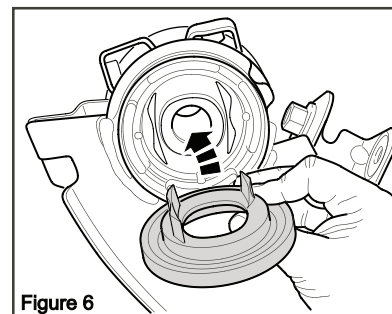
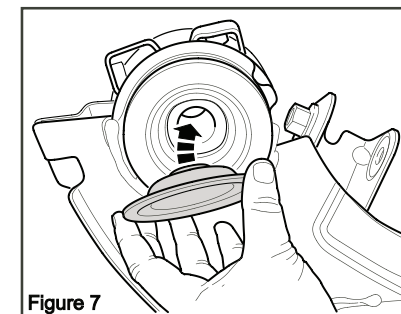

Figure 6
Figure 7
7. Install the 67478 bush into the bottom of the front lower cradle mount OE bush using a small amount of grease supplied (Figure 6 & Figure 7).